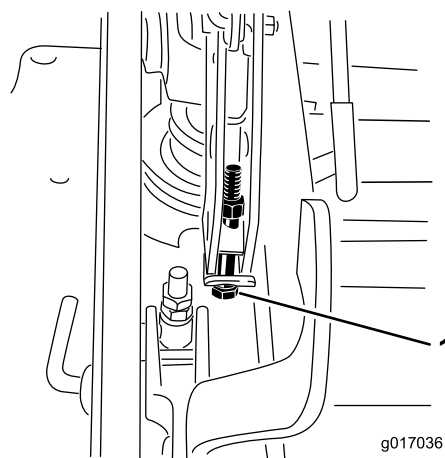

**Figure 87**
12. To adjust the single point system, loosen the two bolts at the bottom of the height of cut plate. Refer to Figure 87.
14. Tighten the two bolts at the bottom of the height of cut plate (Figure 87). Torque to 27-33 ft-lb (37-45 N-m).